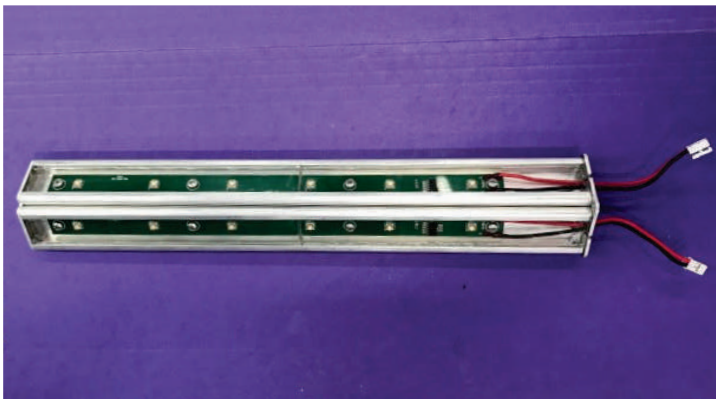

Figure 10
- Slide out the ceramic catalyst assembly. Refer to Figure 10.